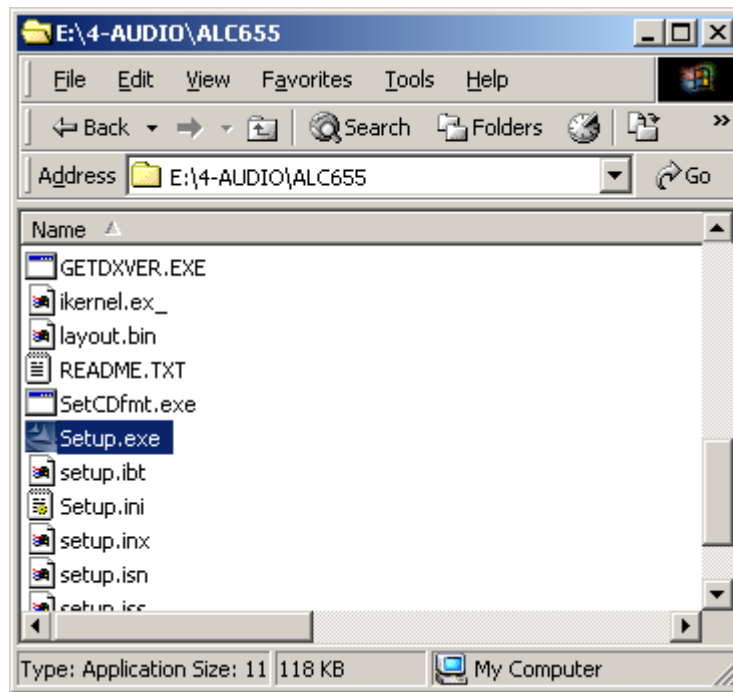

Figure 7-26: Locate the Setup Program Icon
Step 4: Double-click the **Setup.exe** program icon in Figure 7-26.